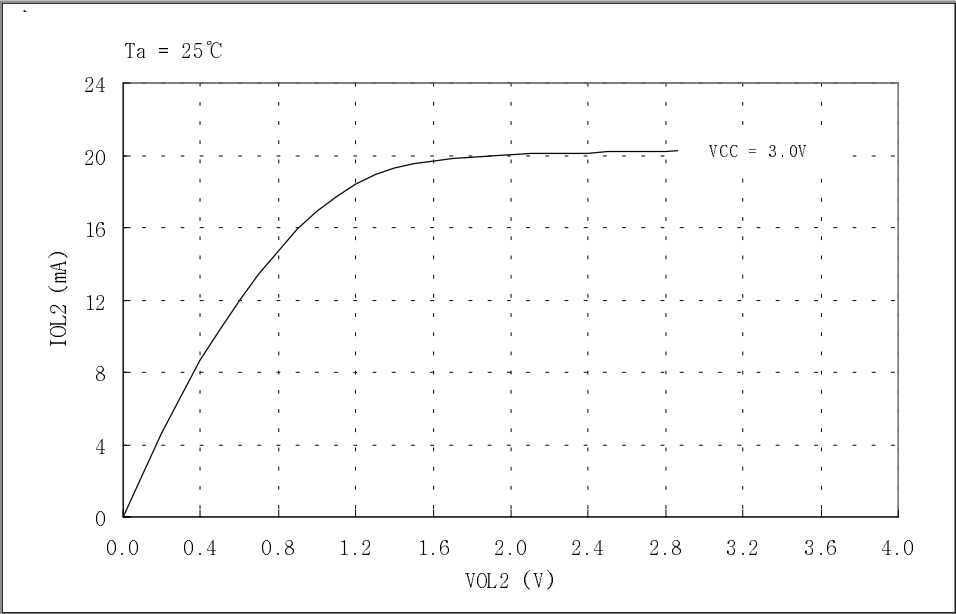
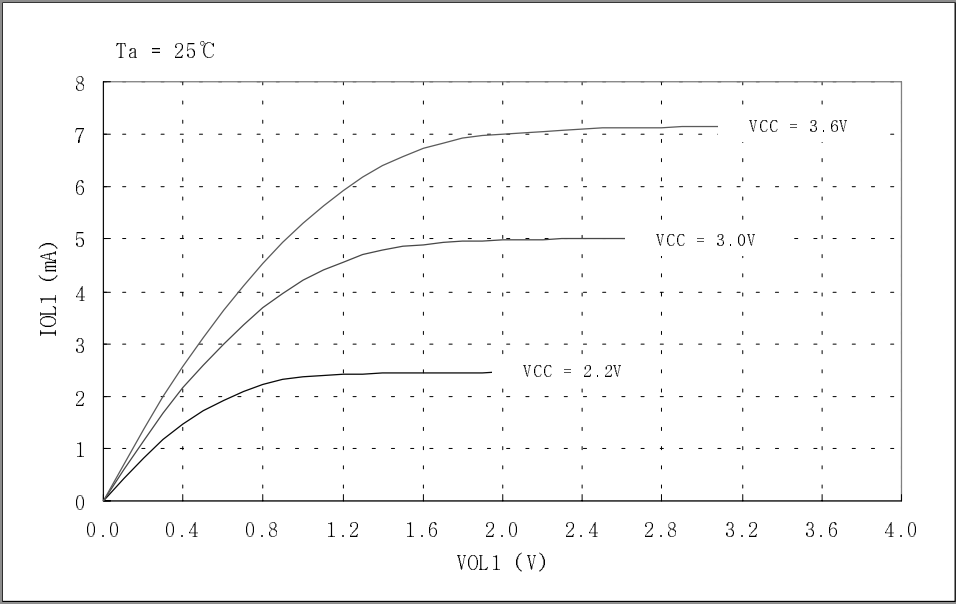
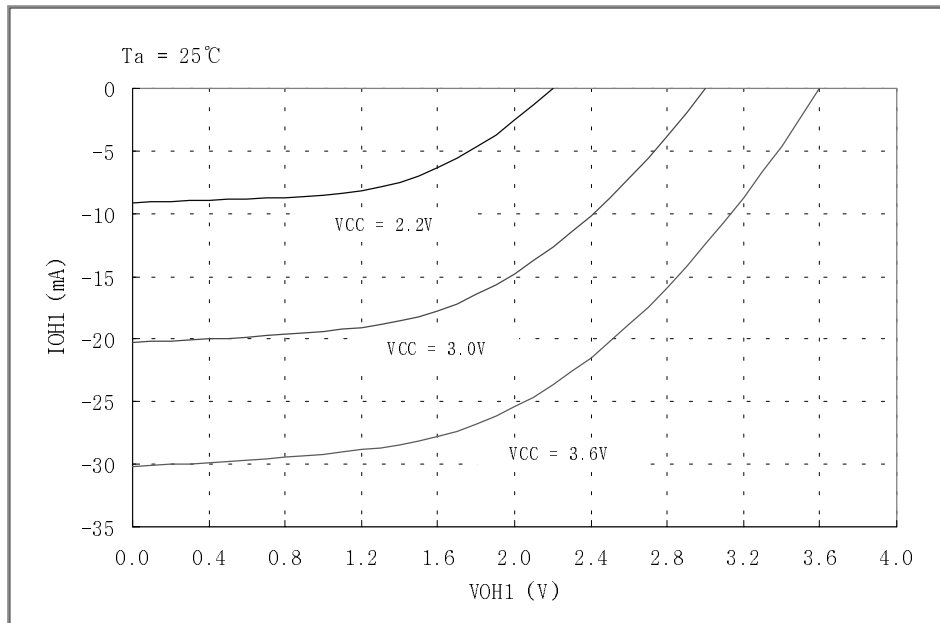

Fig 8-1. IOL2 vs. VOL2 Graph. (D, R, OD6 Port)
Fig 8-2. IOL1 vs VOL1 Graph (REMOUT Port)
Fig 8-3. I_{OH1} vs V_{OH1} Graph (REMOUT Port)
*1 Refer to Fig.8-1 < I_{OL2} vs. V_{OL2} Graph >*2 Refer to Fig.8-2 < I_{OL1} vs. V_{OL1} Graph >*3 Refer to Fig.8-3 < I_{OH1} vs. V_{OH1} Graph >*4 I_{DD1}, I_{DD2} is measured at RESET mode.